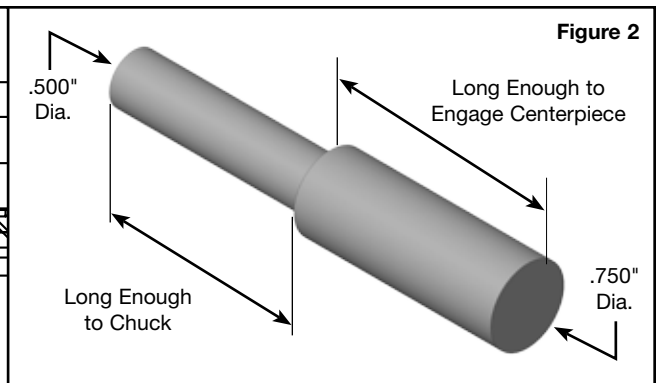

Figure 2
- b. Create a tool to center the milling tool on each of three welds that hold the OE centerpiece. This tool should be cylindrical with a .750" diameter at one end and .500" diameter at the other end to match the shank of the milling tool (**Figure 2**). The .750" section should be long enough to engage the OE centerpiece, and the .500" diameter section should be long enough to grasp in the milling machine.